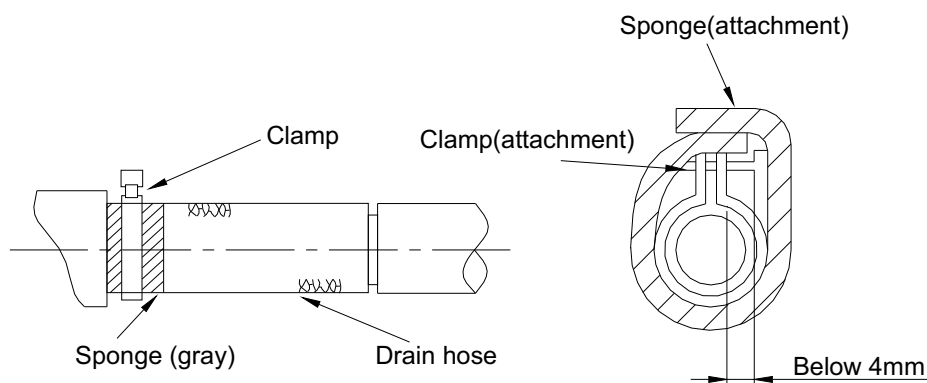

Figure 1-1-9
- ◆ Purchase general-purpose hard PVC pipe locally to be used as the drainage pipeline. When carrying out connection, place the end of the PVC pipeline into the drainage hole. Use flexible drainage tube and tighten it with thread loop. Never use adhesive to connect the drainage hole and the flexible drainage tube. (As shown in Figure 1-1-9)